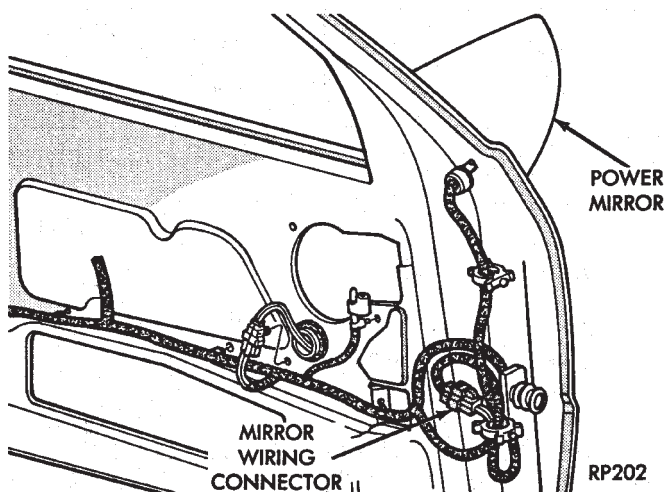

Fig. 17 Power Mirror Wiring—AP Body
- (1) Remove door trim panel.
- (2) Disconnect wiring at connector (Figs. 17 and 18).
- (3) Remove door bezel and small plug to gain access to mirror retaining nuts.
- (4) Remove three mirror retaining nuts and remove mirror from vehicle.
- (5) For installation, reverse above procedure. Test mirror for proper operation before installing door trim panel.